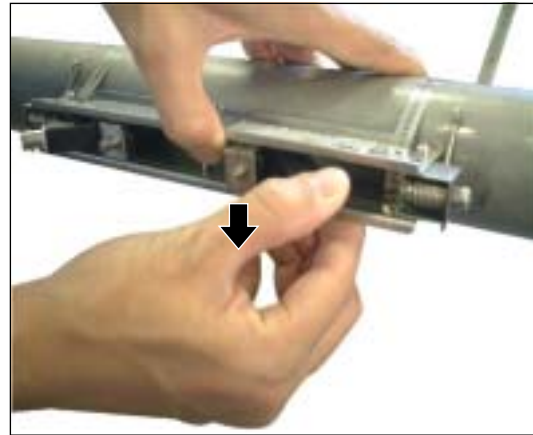

Fig. 3-41
- (3) Likewise, disengage the opposite claws of the sensor unit pressing fixture from the frame (Fig. 3-41).